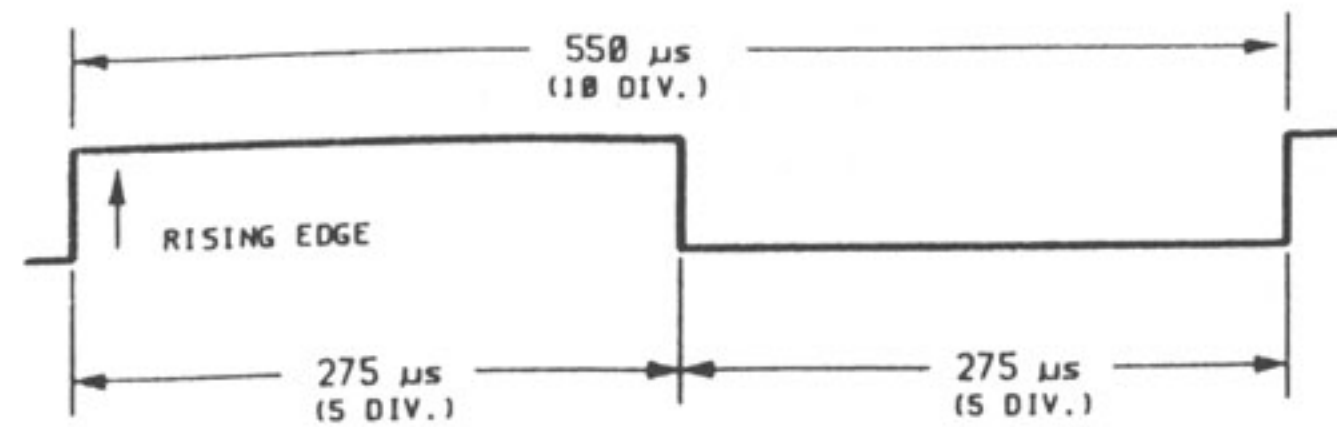

Figure 7-13. RV3, RV4 Duty Cycle Adjustment
STEP 7. Set the oscilloscope to rising edge triggering and connect the oscilloscope probe to TP8 on the CPU. Adjust RV3 on the CPU to achieve the duty cycle as shown in Figure 7-13.
- STEP 10.** Set the oscilloscope to rising edge triggering and connect the oscilloscope probe to TP7 on the CPU. Adjust RV4 to achieve the duty cycle as shown in Figure 7-13. Remove the TTL output of the signal generator from pin 35 of CNJ 421 on the CPU board.